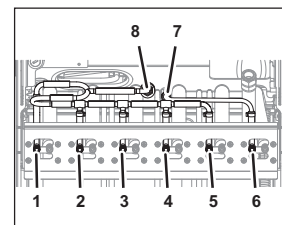

Fig. 20
- Fig. 20/1 Soda water line dispensing valve 1
- Fig. 20/2 Soda water line dispensing valve 2
- Fig. 20/3 Soda water line dispensing valve 3
- Fig. 20/4 Soda water line dispensing valve 4
- Fig. 20/5 Soda water line dispensing valve 5
- Fig. 20/6 Still water line dispensing valve 6
- Fig. 20/7 Still water line (inlet)
- Fig. 20/8 Soda water line (inlet)